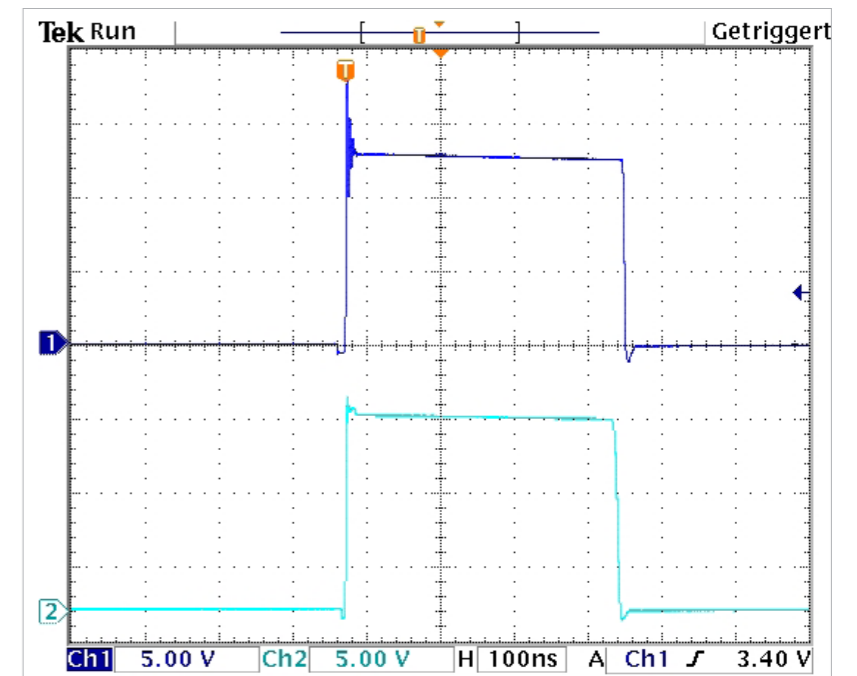

Figure 5: Ch1: LT8610, Ch2: LT8614, both at 13.2V in, 3.3V 2.2A out.
**Figure 5** shows the switch node at 13.2V in. One can see the extremely low deviation from the ideal square wave of the LT8614, shown in Ch2. All time domain measurements in Figures 3 to 5 are done with 500MHz Tektronix